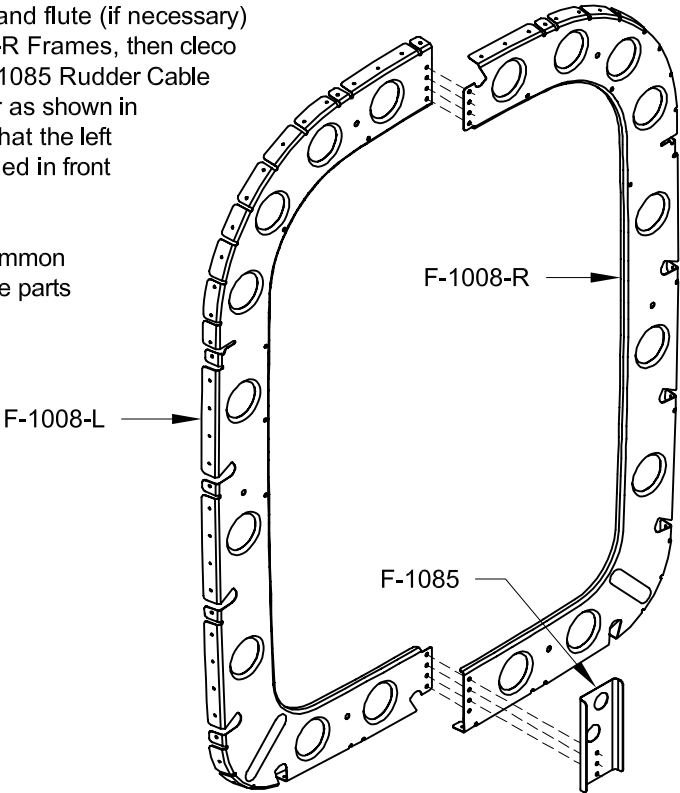

FIGURE 4: ASSEMBLING THE F-1008 FRAME
Step 4: Deburr and flute the **F-1007-L** & -R Frames, then cleco them together as shown in Figure 4. Again, the left frame is positioned in front of the right.
Step 5: Final-Drill the two 3/16" holes, indicated in Figure 4, to 5/8" using a Unibit step drill.